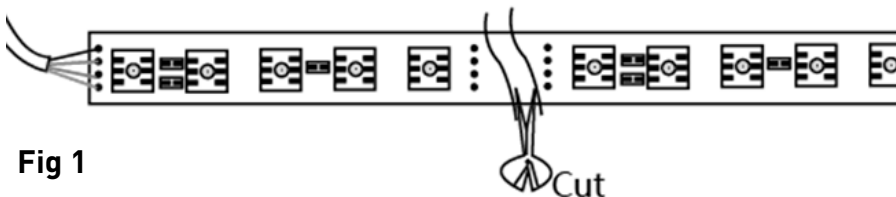

Fig 1
- When cutting the LED Flex, ensure it is only cut along the line indicated between the copper connections, approximately every 166mm along the strips' length (see Fig 1)